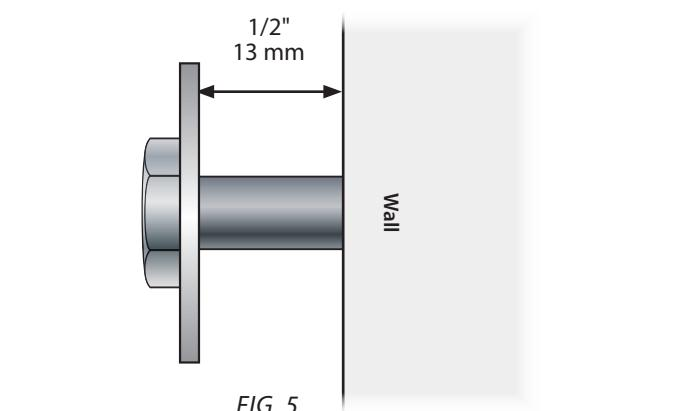

FIG. 5
5 Place washers onto each fastener and thread the fasteners into all four holes, leaving at least 1/2" outside of the hole to fit the Wall Bracket (F) and Rear Support Brace (G13) [FIG. 5].